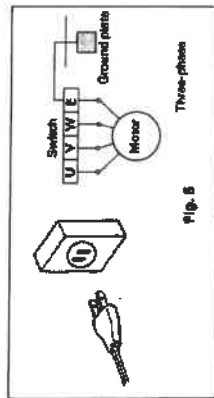

Fig. 5
- (1) Wiring
- a) Wires as indicated for the appropriate start system as shown in Fig. 5.
- (2) Cable
- (3) Grounding